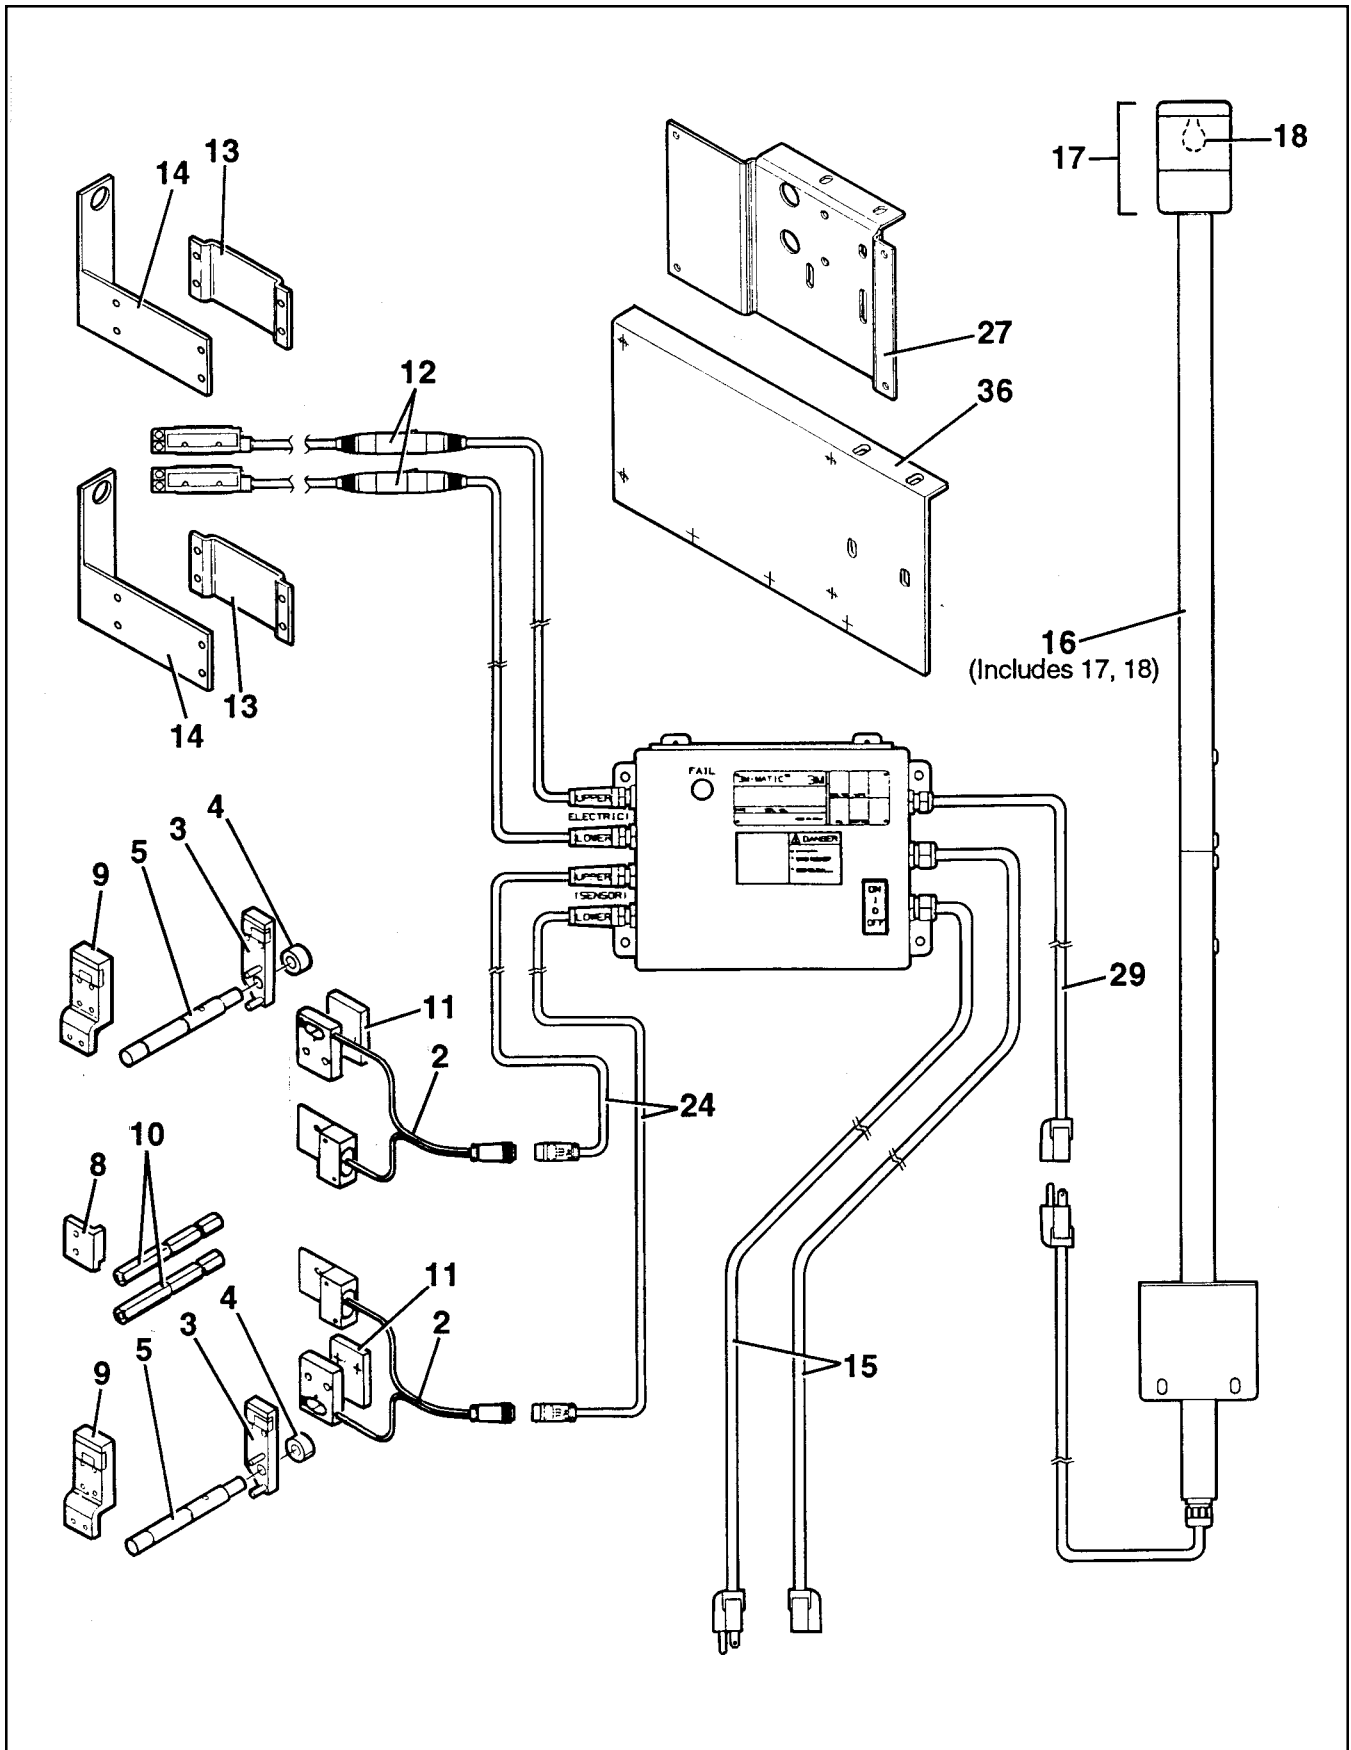

Figure 7-1
1. See Figures 7-1 and 7-2, pages 38 and 39 to determine individual part and reference number.